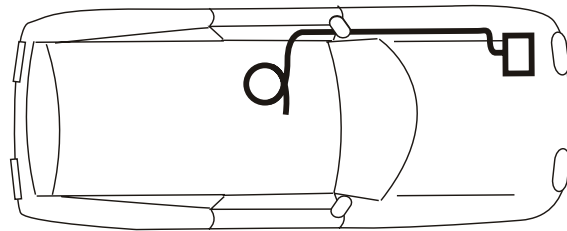

Figure 4-2
3. Run the vehicle harness under and, when possible, through the vehicle back to the rear cargo area/trunk, gaining entry into the vehicle through the firewall. If you want to run the harness under the vehicle, you will most likely need to drill a hole to get the wire into the rear cargo area/trunk. Use the supplied $\frac{3}{8}$ grommet in the hole to protect the wire. **See Figure 4-2.**